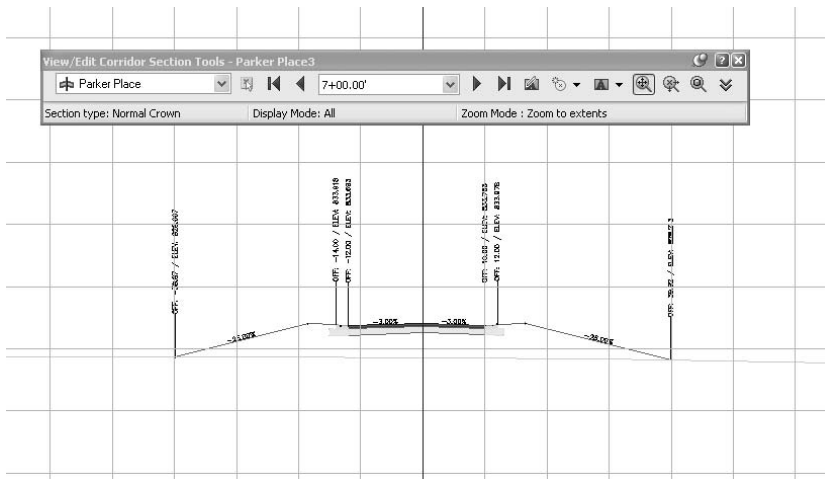

Figure 10.10
3. At the Select a corridor <or press enter key to select from list>: prompt, pick the Parker Place Corridor object in the drawing. The View/Edit Corridor Section Tools dialog will appear, as shown in Figure 10.10.